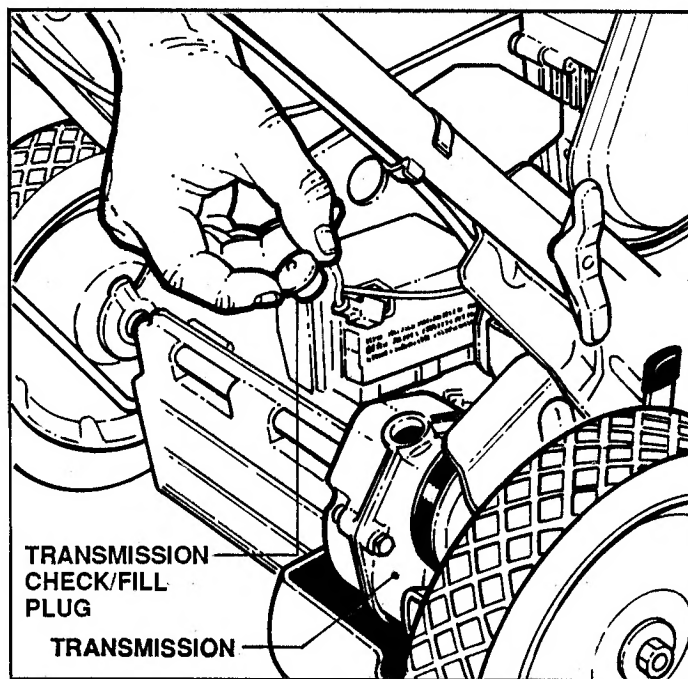

FIGURE 2.2
1. Remove plug and check every 25 hours of operation. See Figure 2.2.